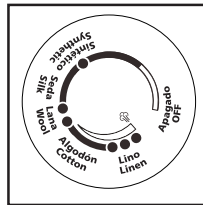

Figure 1
2. Set Fabric Select Dial according to fabric type (Figure 1).
2. Move Steam Lever to desired steam setting. Set Fabric Select Dial according to fabric type (refer to Figure 1).